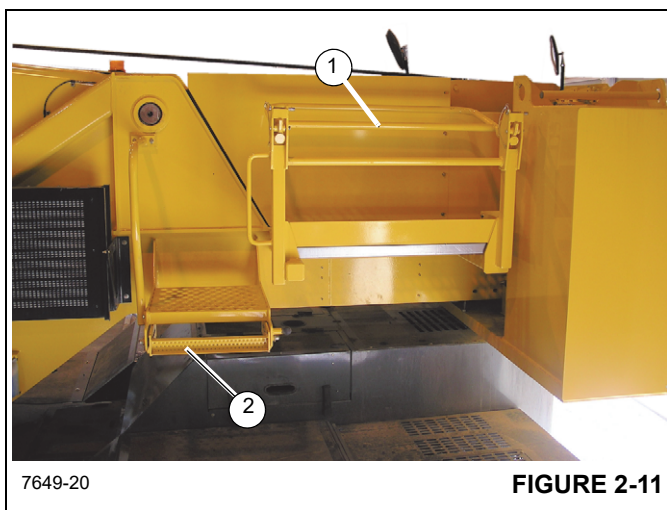

FIGURE 2-11
Ensure that the hoist access platform hand rail (1) (Figure 2-11) and step (2) (Fixed counterweight units only) are in the travel configuration. Remove pins from hand rail and rotate it down into the travel position, reinstall pins. Pull the step locking pin out, slide the step in to the travel position and release the lock pin.